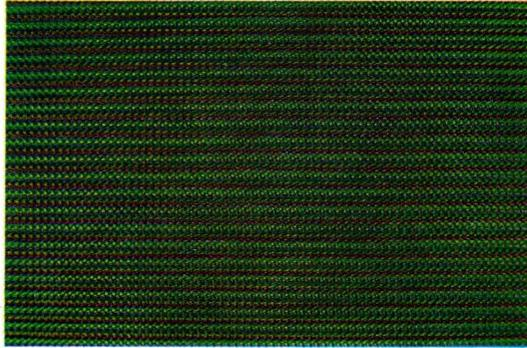

Fig. VII-15. Picture detail showing the "Venetian blinds" effect
2. ● The delay-line requires readjustment if the chroma contents of the successive TV lines does not seem to be the same and if the so-termed "Venetian blinds" appear (see Fig. VII-15).